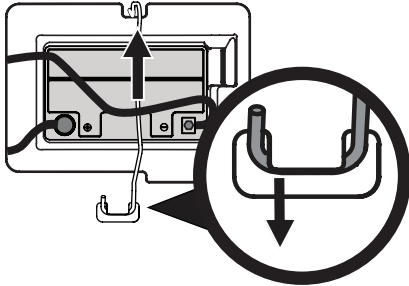

Figure 13
NOTE: Wiring harness should lay on top of battery hold down rod, otherwise damage to the wiring harness may result (Figure 13 on page 13).
3. Remove the battery hold down rod by pushing the hooked end out of the tab on the fender to the right side of the battery. Then flip the battery hold down rod up to free the battery (Figure 13).